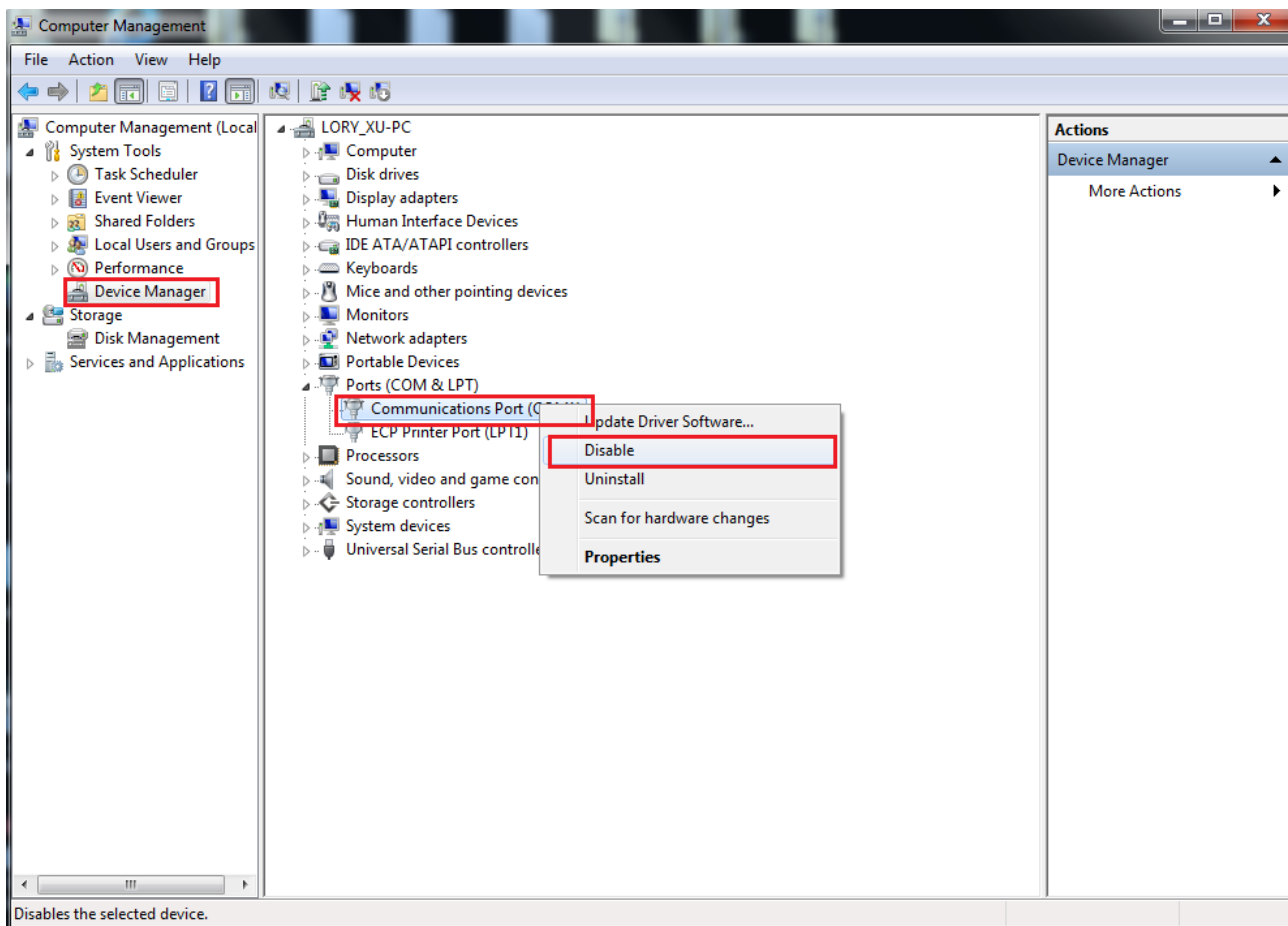

Figure 3-2 Forbid Irrelevant COM
- 2) As shown in Figure 3-2, "Computer management" -> "Device manager" -> "Disable" other irrelevant COM ports in "Ports".